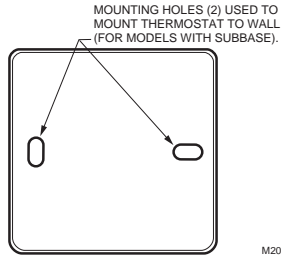

**Fig. 2. Mounting hole locations for models without subbase.**
6. Fasten the thermostat to the wall with screws through the mounting holes on the upper left and right sides of the device. See Fig. 2.